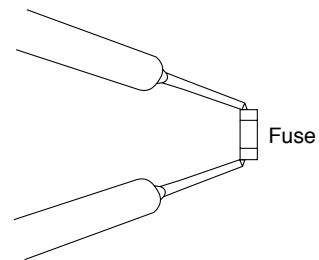

Fig. 6
- Check for continuity using a multimeter as shown in Fig. 6.